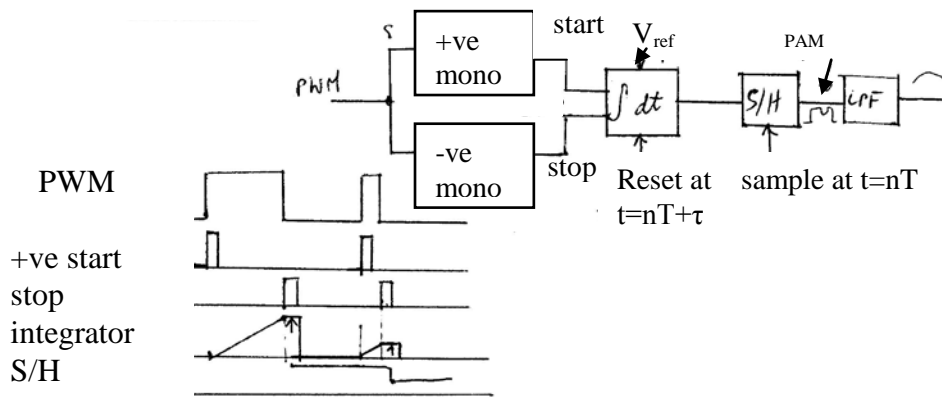
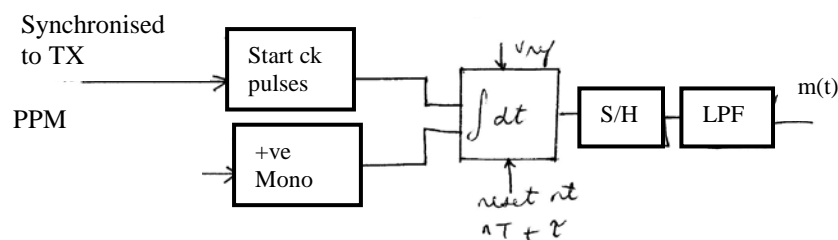

Figure 4 Block diagram of PWM demodulating circuit.
Figure 5 Block diagram for demodulating a PPM signal
Alternatively we can exploit the position of timing edges to change PWM into PAM, which is similar to FM demodulation. A block diagram of a demodulating circuit is shown in Figure 4. In the figure there are two mono-stables one which is triggered by the positive edge of the PWM signal and the second one is a negative edge triggered mono-stable which is triggered by the negative edge of the PWM signal. Using an integrator which starts with the positive edge and stops with the negative edge, and sampling it following the negative edge, the voltage on the sample and hold circuit is then proportional to the duration of the pulse. This effectively changes a PWM signal into a PAM signal. In the case of PPM – the information regarding the start of the pulse is **lost, and** only information about the stop is available i.e. to detect PPM we need a generator or a circuit (CT) to derive the start pulses as shown in Figure 5 where the positive triggered mono-stable is replaced by a local clock generator synchronised to the transmitter.